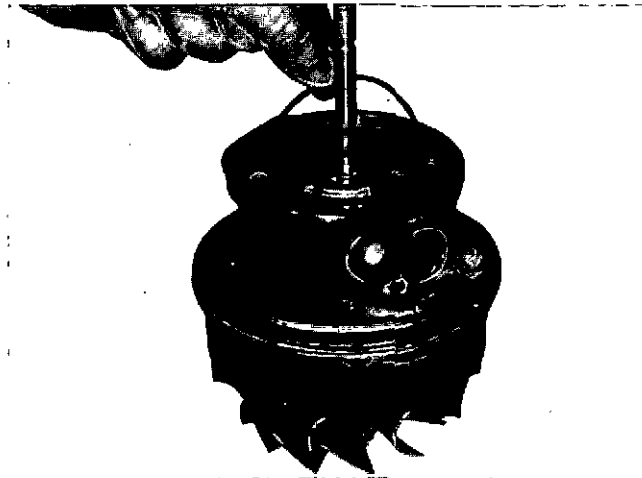

Fig. 5-30, (TA32). Installing the O-ring
8. Position a new O-ring in the proper groove in the center housing, Fig. 5-30.